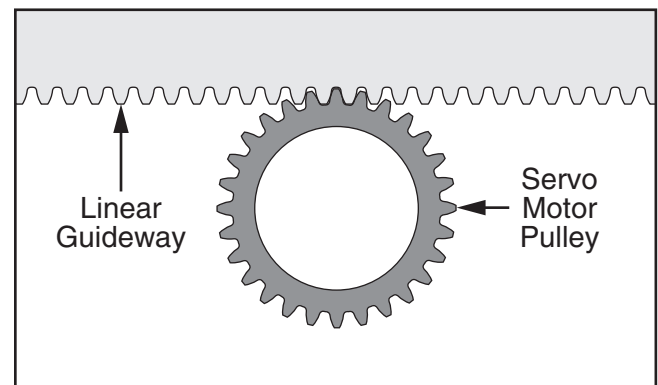

Figure 37. Servo motor pulley meshed with linear guideway.
4. Tighten (2) gib screws on gantry column until servo motor pulley fully meshes with linear guideway (see **Figure 37**). Fully tighten cap screws installed in **Step 3** at this time.